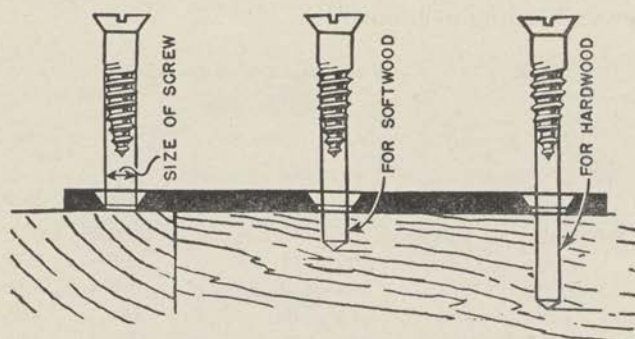

FIGURE 26.—Holes for mounting hardware with screws.
(3) To fasten hinges or other hardware with screws (fig. 26)—
(4) If the wood is soft, bore as deep as half the length of the threaded part of the screw, as shown in figure 26. If the wood is hard (oak for example), or the screw is large or soft (brass for instance), the hole must be nearly as deep as the screw. Holes for small screws are usually made with brad awls or drills. Soaping the threads will make the screw drive more easily.
f. Saws.—(1) The common hand saw consists of a thin, flat blade of tool steel having a row of teeth along one edge and wooden handle screwed to the large end. There are several common types of hand